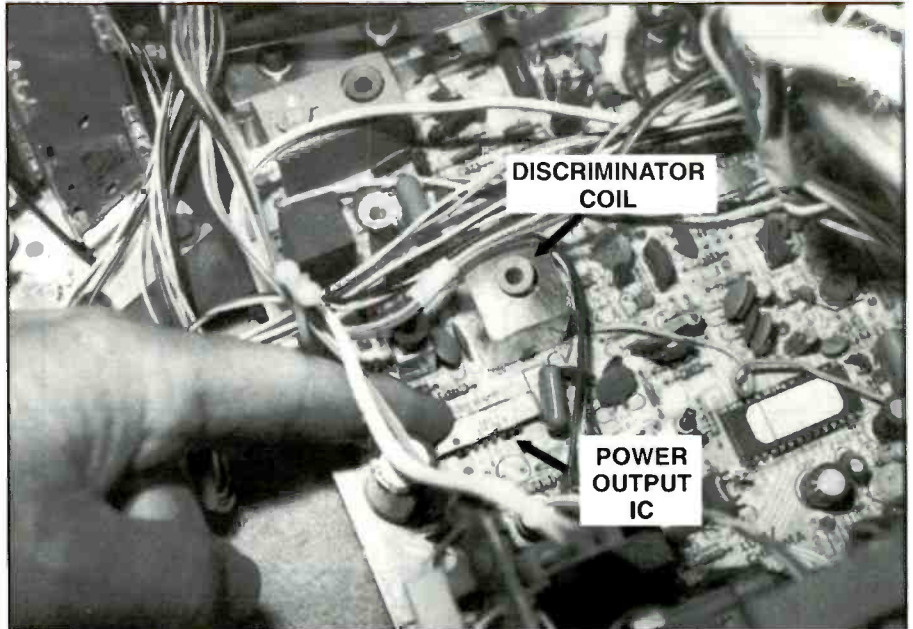

Figure 1. The audio circuits in early solid-state TV sets consisted of a single integrated circuit mounted on a heat sink.
Figure 1. These two electromagnetic waves, of equal frequency but different amplitudes, are approaching an aperture. What will happen when they reach the aperture?
1. Refer to Figure 1. Two electromagnetic waves (A and B) are approaching an aperture. They both have the same frequency, but the amplitude of A is greater than the amplitude of B. Which of the following is true?
IC components found in the audio stages consisted of not only the audio output circuits, but preamp and driver circuits. This same IC may also include part of the IF/SIF and discriminator sound circuits (Figure 1).